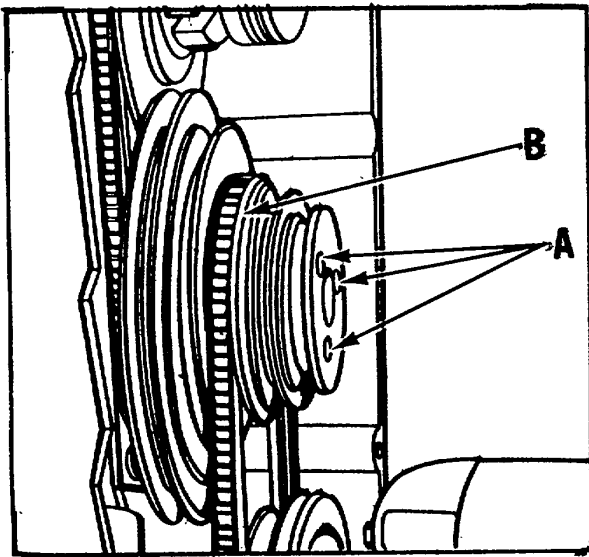

Fig. 13.
3. Remove the three screws (A) Fig. 13, located on the face of the countershaft pulley, and remove the five step countershaft pulley (B).